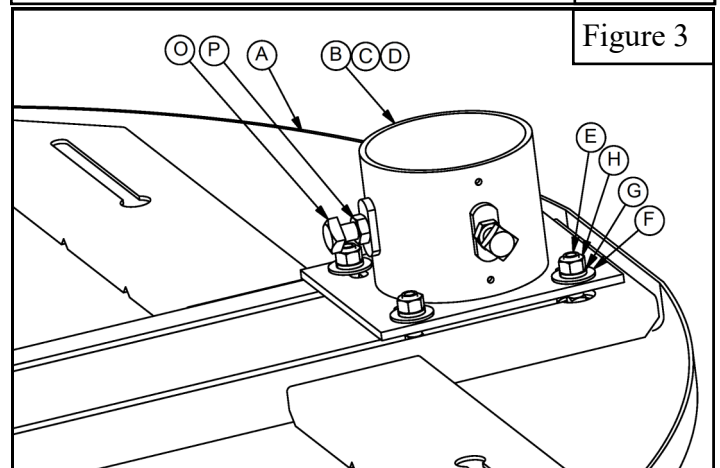

Figure 3
3. Install four $7/16'' \times 1\ 1/2''$ Carriage Bolts (E), $7/16''$ Flat Washers (F), $7/16''$ Lock Washers (G) and $7/16''$ Hex Nuts (H) into Backboard Mounting Adaptor (B, C or D). Leave hardware loose. See Figure 3.
4. Insert the $7/16'' \times 1\ 1/2''$ Carriage Bolts (E) from the above assembly into the holes at the top of the vertical slots in *BA495 Fan Steel Backboard (A)* and slide assembly down the *BA495 Fan Steel Backboard (A)* to the location closest to the *Rim (R)*. Temporarily tighten hardware. See Figures 3 and 4.
5. Thread $1/2''$ Jam Nuts (P) onto the $1/2''$ Square Head Set Screws (O). Thread the two $1/2''$ Square Head Set Screws (O) partway into the Backboard Mounting Adaptor (B, C or D). See Figure 3.